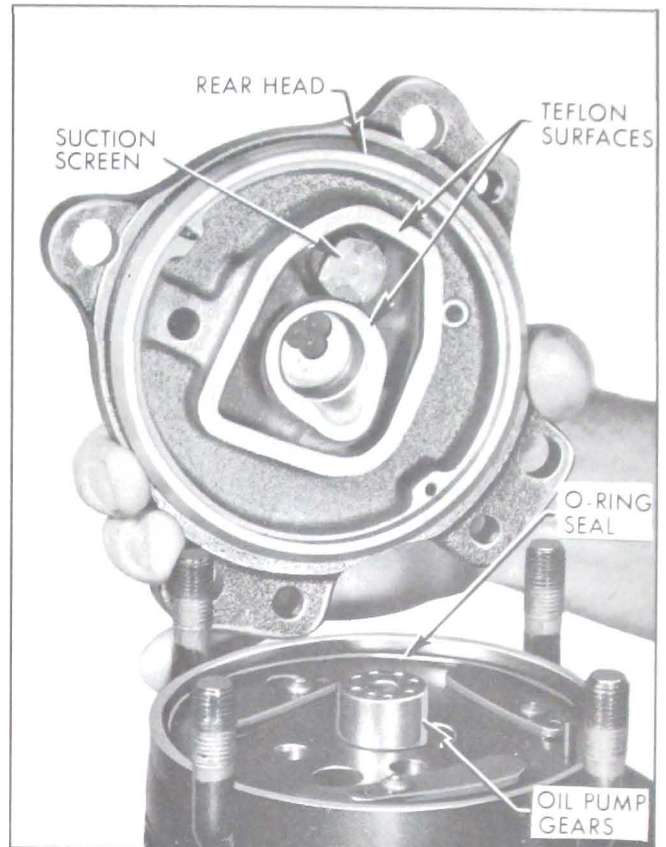

Figure 11-93—Rear Head Teflon Surface
12. Examine teflon surface on the rear head casting webs. If any damage is observed, the head should be replaced. See Figure 11-93.